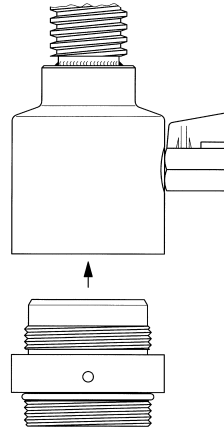

Figure 16
- Choose the adapter that matches the thread of the saddle and screw it into the machine dome. See Figure 16.